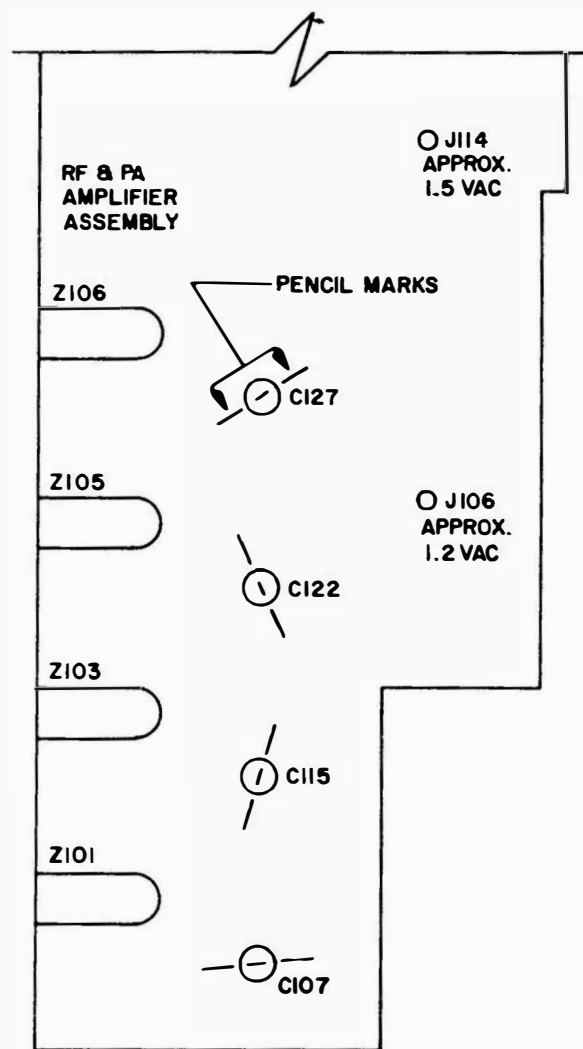

Figure 2. Method of Marking Trimmer Capacitor Positions Before Tuning (754)
- b. Pencil mark the position of the trimmer capacitors (see C127 in figure 2).